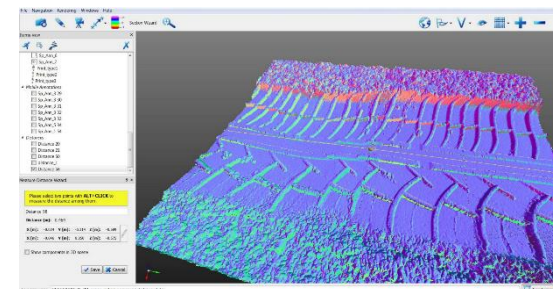

Fig. 7 Tyre tread impression with high definition 3D scanning
- Capturing of traces of footwear and tyre impressions (Fig. 7) within some seconds